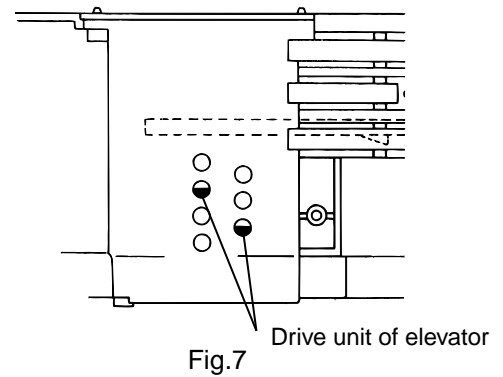

Fig.7
**[Caution]** In case the driver unit elevator is not at above position, set the elevator to the position as shown in Fig.7 by manually turning the pulley gear as shown in Fig.8.
## ■ Removing the Capstan belt (See Fig.7)